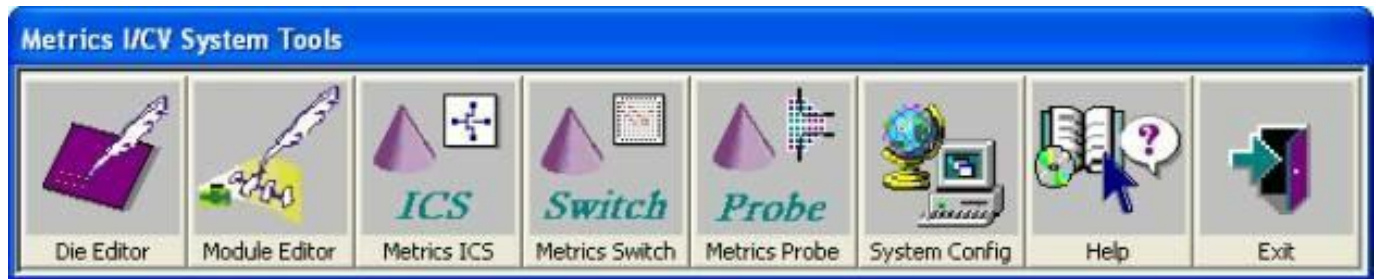

Figure 2 - Metrics I/CV System Tools Menu
- 9.3.1.1 Open the Metrics Switch program from the Metrics I/CV System Tools program bar (Figure 2).